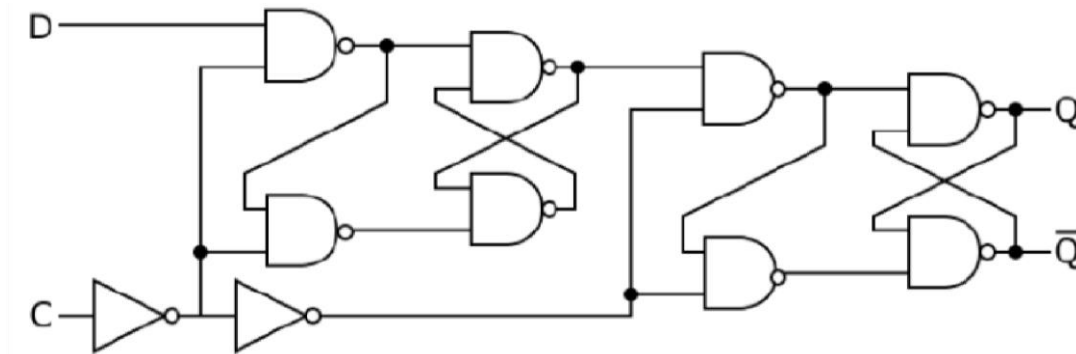

Fig. 1
1. Consider a positive-edge-triggered D flip-flop as shown in Fig. 1.